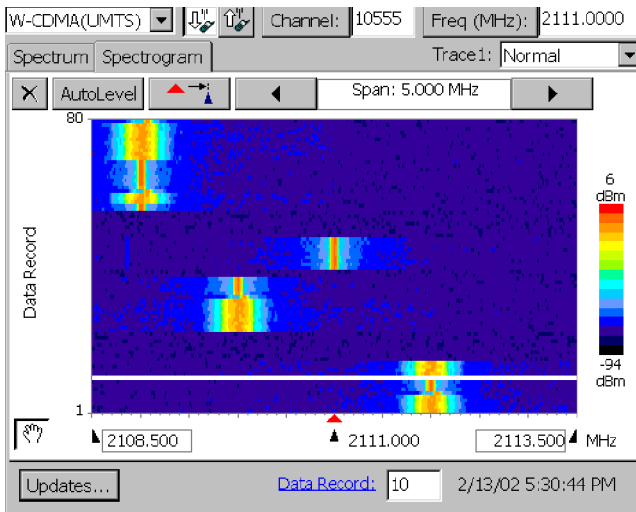

Figure 3-25: Intermittent signal Spectrogram display
5. Tap the **Spectrogram** tab. See Figure 3-25.